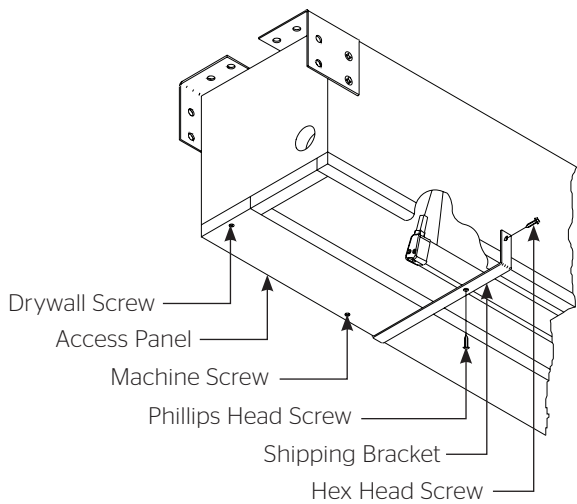

Figure 1
3. Carefully remove three shipping brackets by removing six hex head screws from case and three phillips head screws from aluminum slat. Use a phillips screwdriver, a hex socket and a ratchet. Slat should move freely (Fig. 1).
4. Detach access panel by removing screws (Fig. 1).